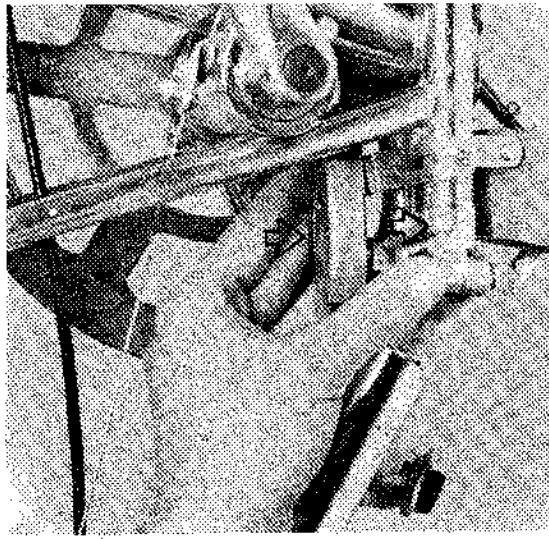

Fig. 2
7. Depress the safety spring hook as you pull out and unlock the mid-frame latch (Fig. 2). Partially fold bicycle so it rests on all three wheels. (Note: If you do not depress the safety spring hook sufficiently, the mid-frame latch cannot be unlocked.)